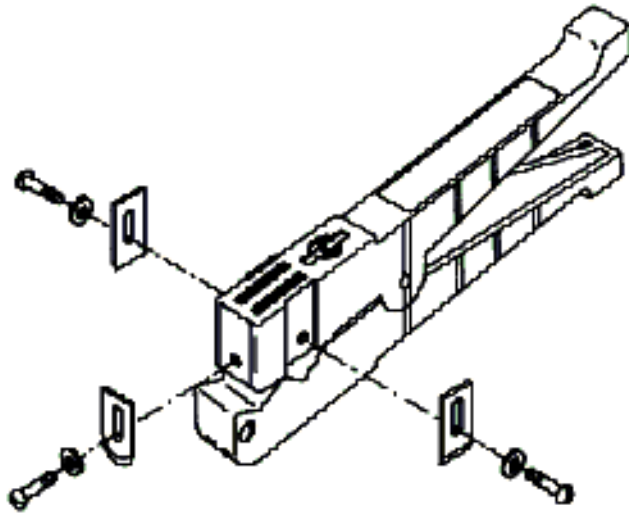

Figure 23. Coaxial Cable Strippers
32. **COAXIAL CABLE STRIPPERS.** Coaxial cable strippers are unique in that they have two blades located on each side of the tool, and a round blade attached to the front (Figure 23).